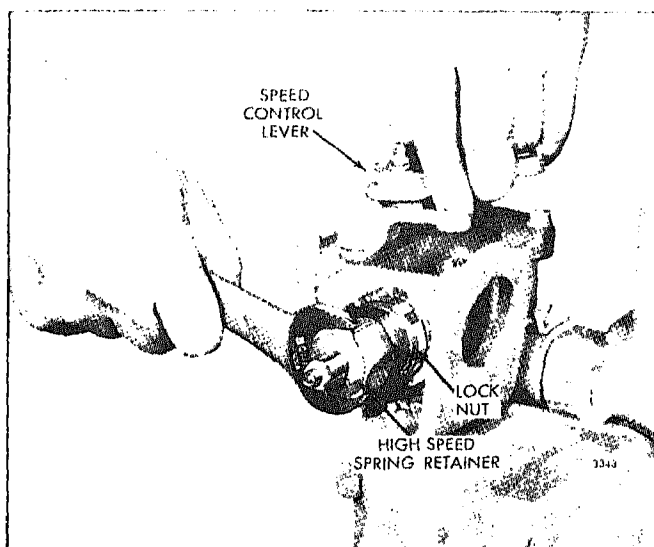

Fig. 5 - Adjusting Maximum No-Load Engine Speed (Type A)
1. Loosen the lock nut (Fig. 5) and back off the high-speed spring retainer approximately five turns.